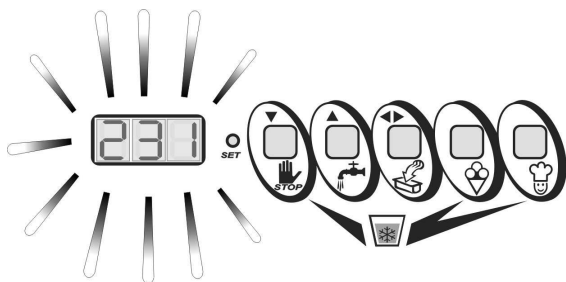

Fig.5
- After a few minutes and once the consistency level selected during the programming phase has been reached, an intermittent acoustic signal warns the operator that it is possible to extract the ice cream (Fig. 5). If this should not be immediately possible, the machine will automatically see to maintain the ice